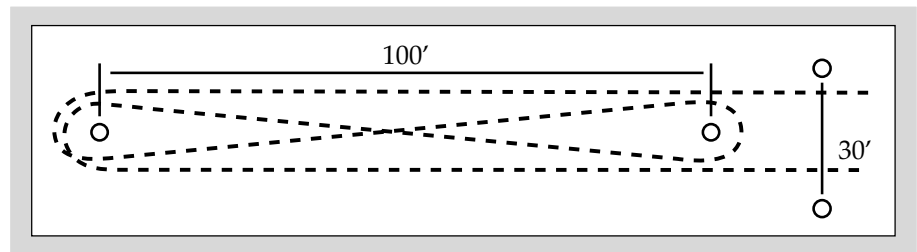

Figure 8. Driving Idaho Figure Eight.
Driving Idaho Figure Eight (see Figure 8)
Course: Two (2) markers placed 100 feet apart with the first marker 20 feet from the start–finish line (see Figure 8).